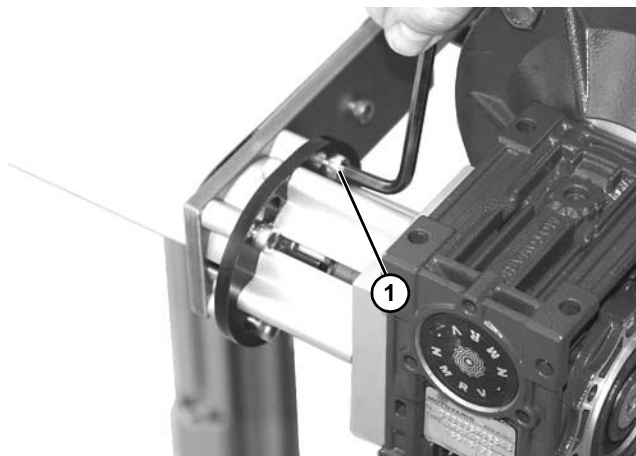

Figure 8
10. Tighten four M6x30 mounting screws (Figure 8, item 1) to 60 in-lb (7 Nm).